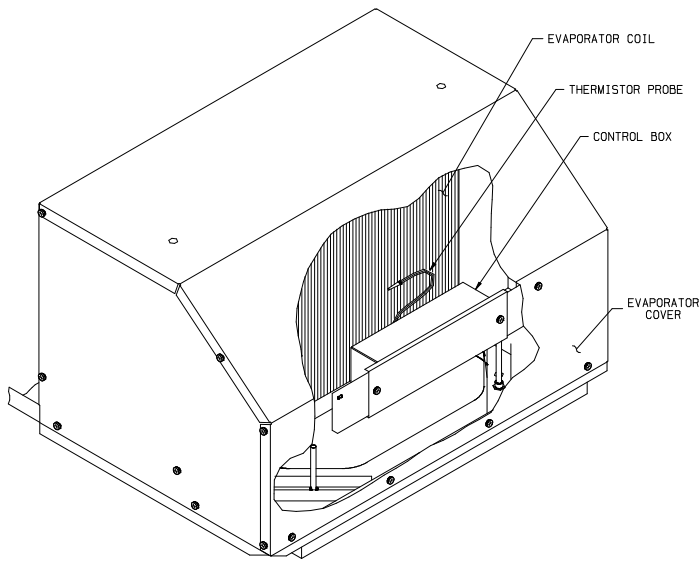
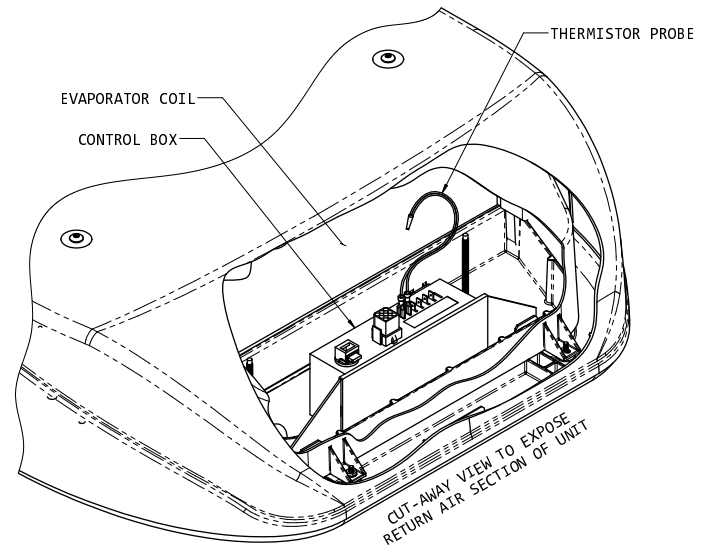

FIGURE 2
FIGURE 3
Insert the freeze circuit thermistor probe into the roof top unit evaporator coil. Verify that the probe is located in the coil properly (See Figure 2). For 47000 series, see Figure 3.
**B. Mounting the Wirebox (See Figure 2)**
- 1. Mount control box inside upper unit evaporator cover. Position the control box over the existing screws and secure with two wing nuts provided. The 47000 series control boxes will mount with wires exiting the top (See Figure 3).